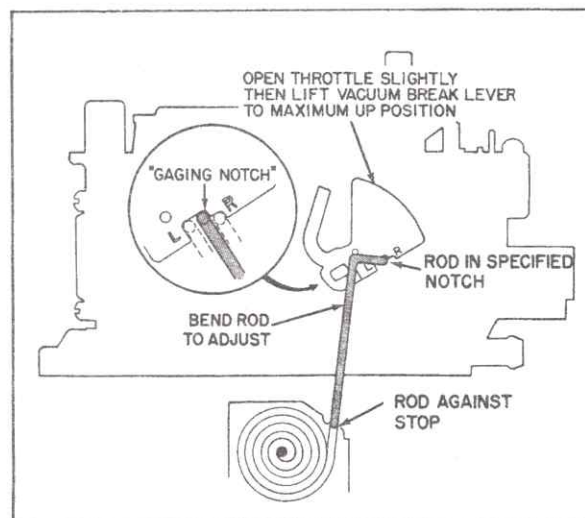

Fig. 6-105 Choke Coil Rod Adjustment
## 87. Choke-Coil Rod Adjustment (On Car) (Fig. 6-105)
3. With choke valve completely closed and vacuum break lever in maximum upward position, pull choke coil rod upward to end of travel against stop in choke coil housing. Upper end of rod should be positioned in gaging notch as shown in Fig. 6-105.